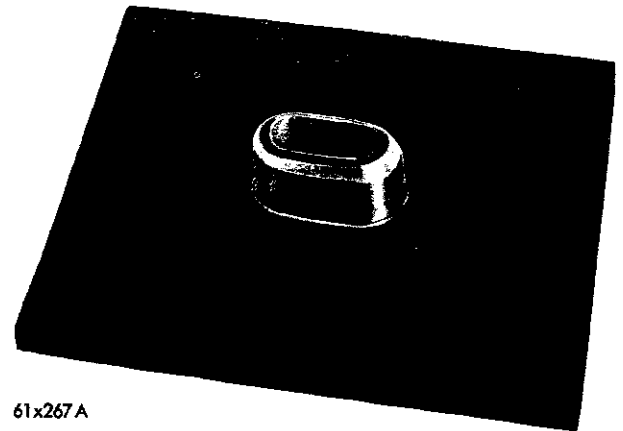

Fig. 4—Rear Spring Front Interliner
3. REAR SPRING INTERLINERS (Figs. 4 and 5)